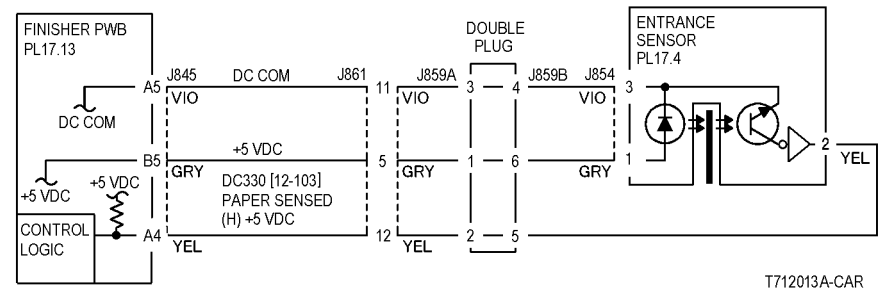
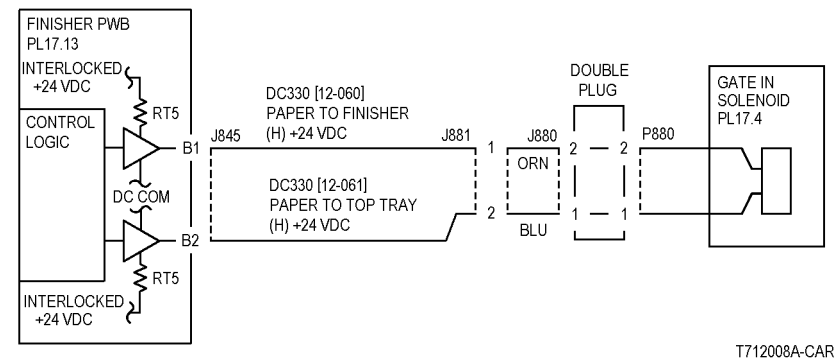
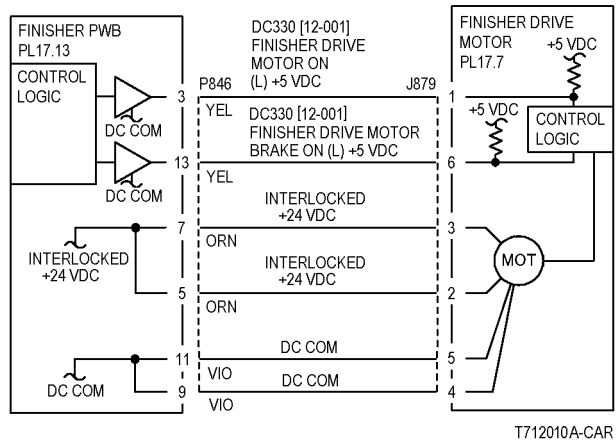

Figure 2 H Transport Entrance Sensor CD
Figure 3 Gate In Solenoid CD
Figure 4 Finisher Drive Motor CD
Press Stop. Check the circuit of the Finisher Drive Motor (Figure 4). Refer to the **OF 99-9** RAP for troubleshooting procedure.
Press Stop. Check the circuit of the H Transport Entrance Sensor (Figure 2). Refer to the **OF 99-2** RAP for troubleshooting procedure.
Press Stop. Check the circuit of the Gate In Solenoid (Figure 3). Refer to the **OF 99-4** RAP for troubleshooting procedure.
- Ensure that the connectors shown in the circuit diagrams (Figure 2, Figure 3, Figure 4) are securely connected and that the wires are not damaged.